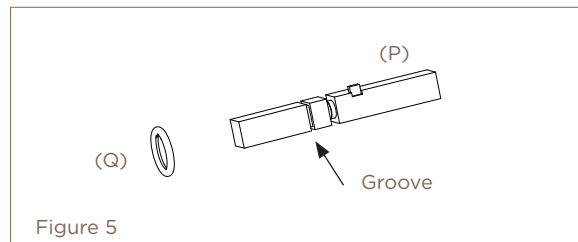

Figure 5
- 4.2 Ensure you have placed the spindle O-ring (Q) over the privacy spindle (P), and it has located into the groove. Figure 5.
*Note: failure to fit spindle O-ring (Q) will result in the spindle moving over time and not engaging the door lever.